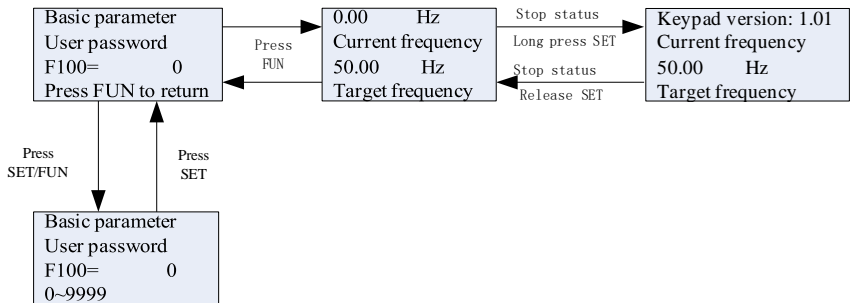

Fig5-2 Operating flowchart of interface switch
- (1) Connect the wires in accordance with Figure 5-2. After having checked the wiring successfully, switch on the circuit breaker, and power on the inverter;